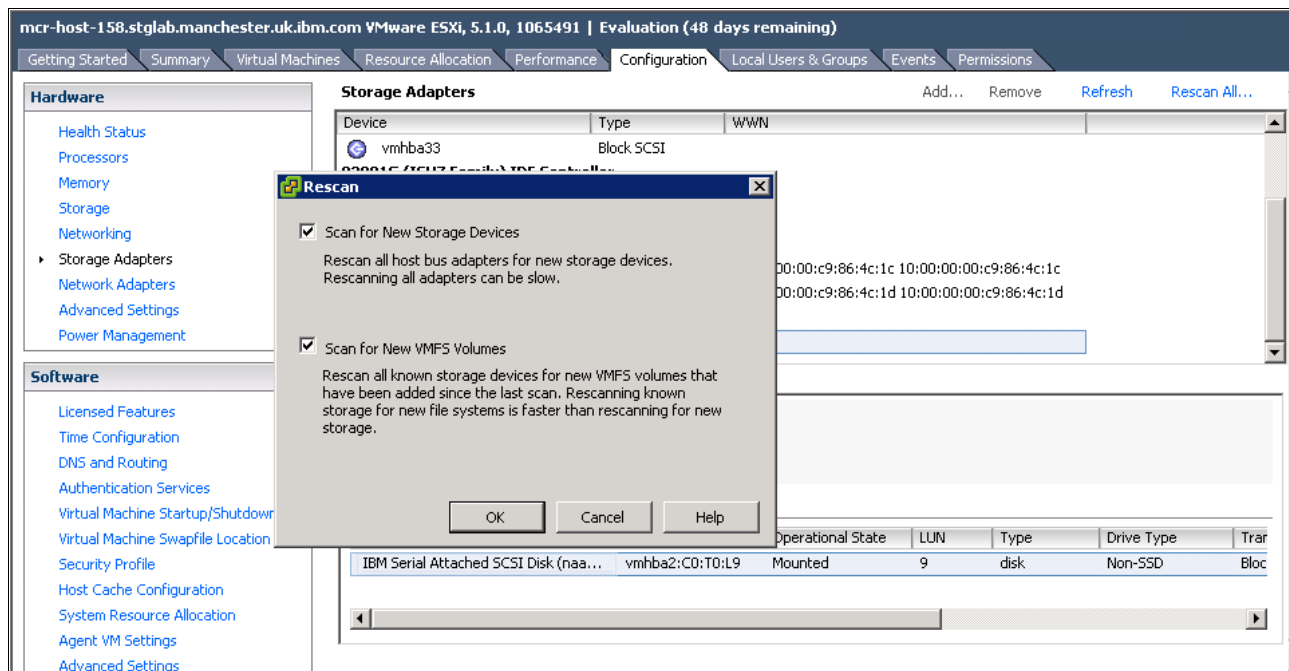

Figure 5-98 Rescan
4. Click **Rescan All...** in the upper right corner and click **OK** in the resulting pop-up window, as shown in Figure 5-98. This scans for new storage devices.